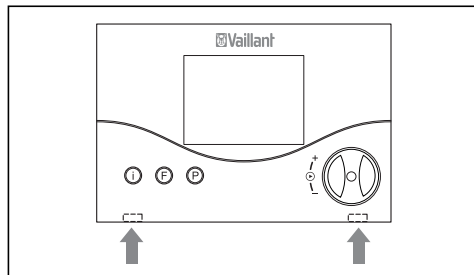

Fig. 4.1 Releasing the locking hook
- Carefully push the retaining hook to the side using a screwdriver (Fig. 4.1) and pull the regulator away to the front.